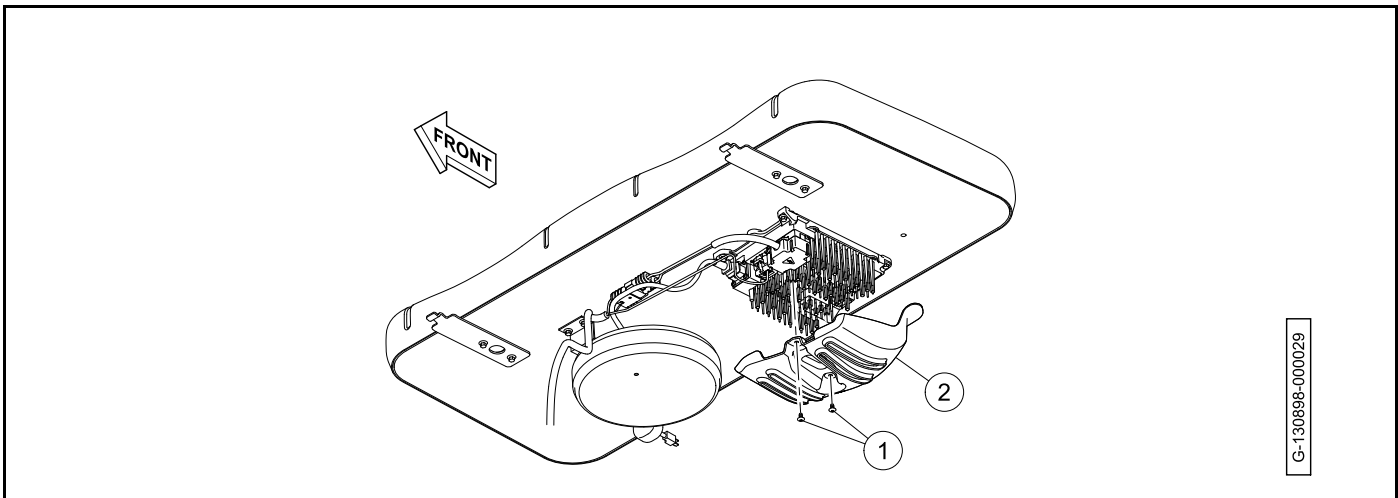

Figure 15-31 Charger Shield Removal
6. Remove the screws (1) and the charger shield (2) (**Figure 15-31**).
5. Remove the screws (1) and the charger shield (2) (Figure 15-31).